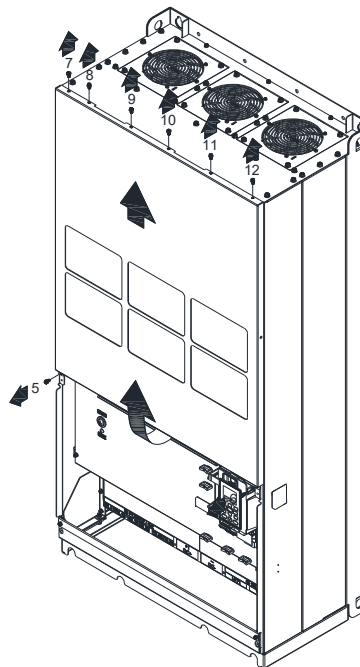

Figure 2
2. Loosen the screw 5-12 and remove the top cover (figure 2). Screw torque: 24-26 kg-cm / [20.8-22.6 lb-in.] / [2.4-2.5 Nm]